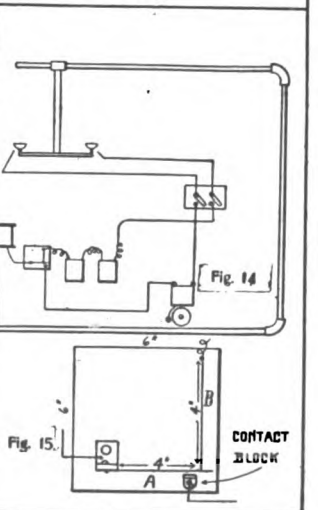

Fig. 15
W. J. Barber, North Adams, Mass., comments on Mr. Williams' system as follows: "The alarm resistance wire should be of suitable size to operate upon the circuit in question. If of high resistance, or very long, or very fine wire, resistance wire should be fine also. In Fig. 15 the contact arrangement is shown. A is a spring tending to touch the contact block and B should be iron wire about 22 or 24 B. & S. gauge. (For wiring plan, see Fig. 14.) The idea is to let all the current that goes to lighter or burners traverse the spring and resistance wire, so that if it is on long enough to heat the same, it will expand and allow the spring to touch the contact of the bell